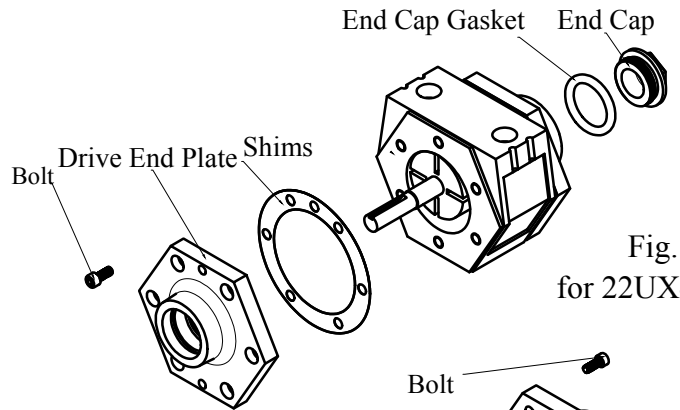
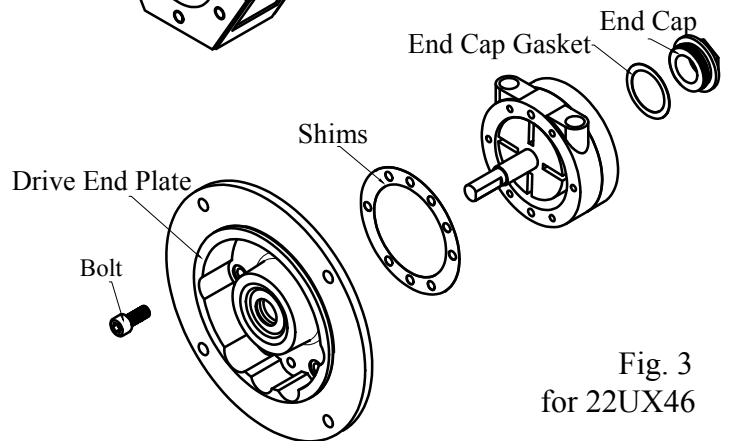
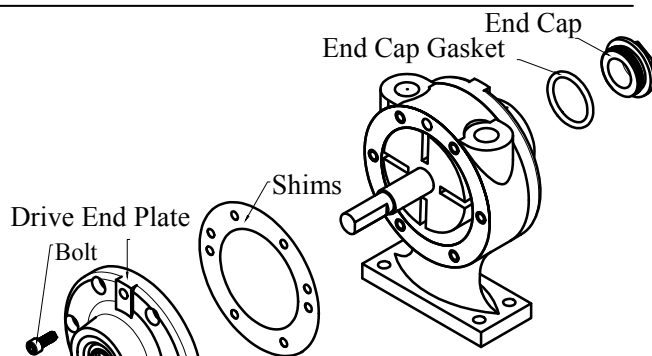

Fig. 1
Fig. 3
Fig. 5
1. Use the proper sized wrench to carefully remove the end cap from the motor with approximately 25 ft-lb torque. Then remove the end cap gasket. Refer to fig. 1, fig. 3, fig. 5.
3. Remove the drive end plate. Refer to fig. 1, fig. 3, fig. 5.